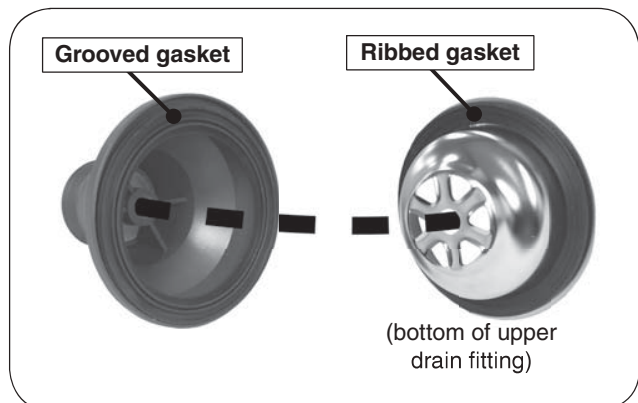

Fig. 2-2 Remove upper drain fitting
2. Separate the upper drain fitting from the remainder of the drain assembly, being sure to keep one rubber gasket on each part (see Fig. 2-2).